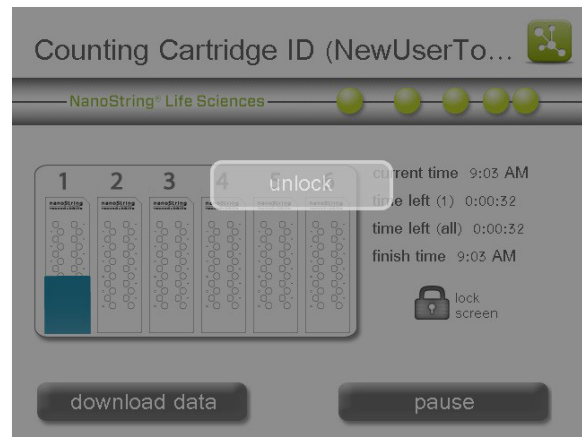

Figure 91: The 'Counting Cartridge ID' screen when it is locked.
12. If the Enterprise Package has been configured to require user login (see the Enterprise Package section), then the screen will dim and lock automatically after a run begins (Figure 91).